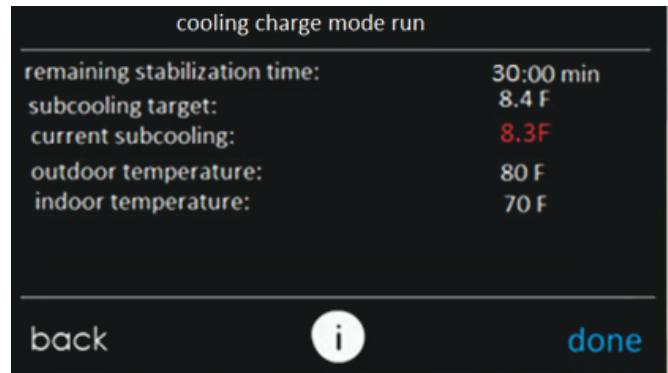

Fig. 18 – Cooling Charge Mode Run Screen
9. Once start has been pressed, the next screen will show the target subcooling that should be attained while charging. If subcooling mode is not available, the current subcooling and target will display as dashes and the refrigerant must be weighed in. Weigh in the charge amount recorded in Step 7. The charge level may then be checked at another time when both the indoor and outdoor temperatures are in a more favorable range that allow for subcooling charging. When subcooling is available, the current subcooling will appear in red (Fig. 18) until the stabilization timer is 0 where it will then turn green, indicating the system has stabilized. "Current subcooling" is calculated using sensors inside the ODU, but may be in error until stabilization time has completed. Compare the "current subcooling" to the “subcooling target” listed on the charging screen. Add refrigerant if the subcooling is low and remove refrigerant if subcooling is high. Tolerance should be $\pm 1^{\circ}\text{F}$. It is recommended to